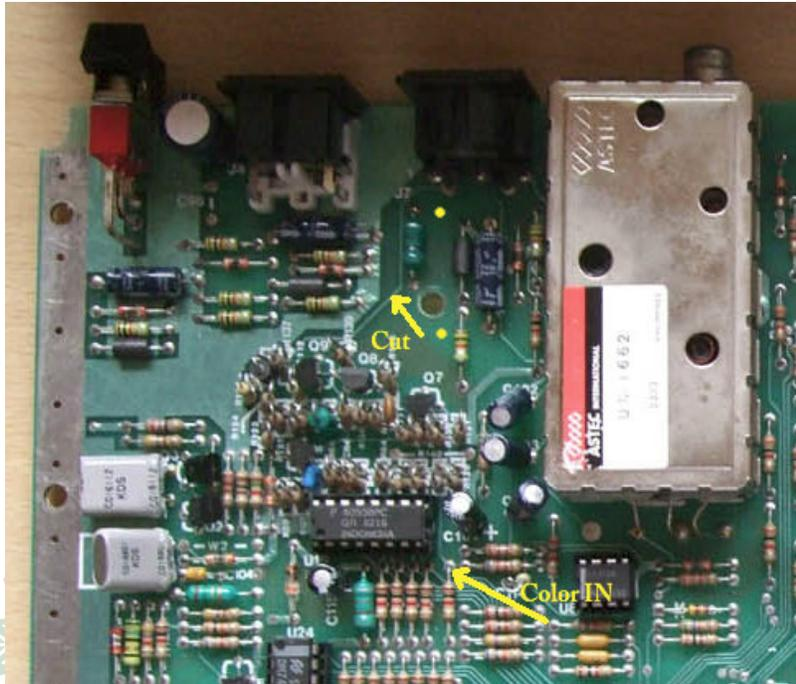

Figure 5: Color-in & trace cut in 600XL
4. Cut trace that labelled "cut" in **Figure 5: Color-in & trace cut in 600XL**